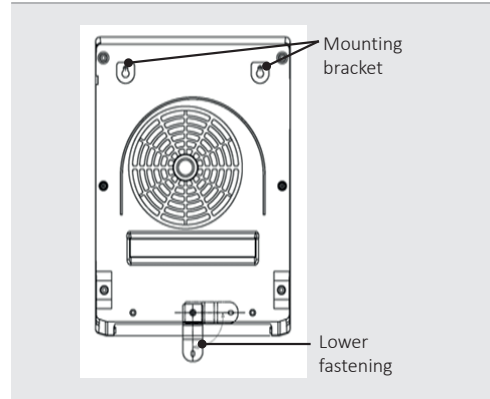

Fig. 4: Attachment
5. The lower fastening (see Fig. 4) must be attached for a secure hold. Turn this